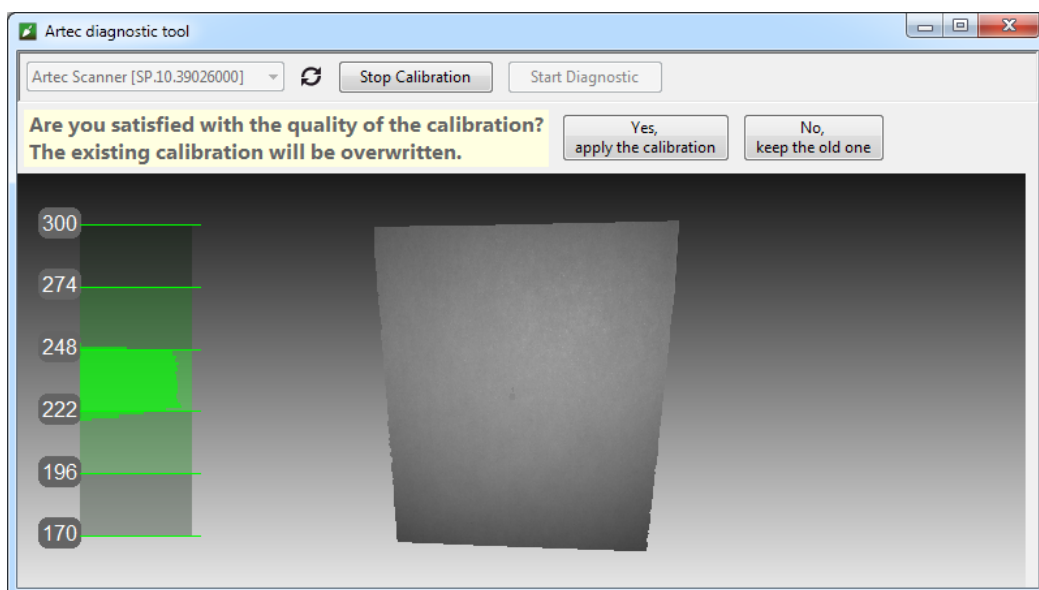

Figure 140: Assessing calibration results.
11. Click *Yes, apply the calibration* if no holes appear on the surface and you are satisfied with the reconstruction results. To reject the new calibration, click *No, keep the old one* (see Figure 140).